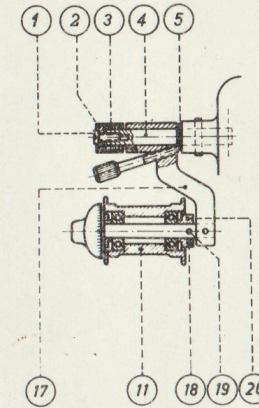

Fig. 5
Adjustment of the axial play (fig. 5):
Adjustment (fig. 5):
1. Pressure roller "11" (fig. 5, page AB-7)